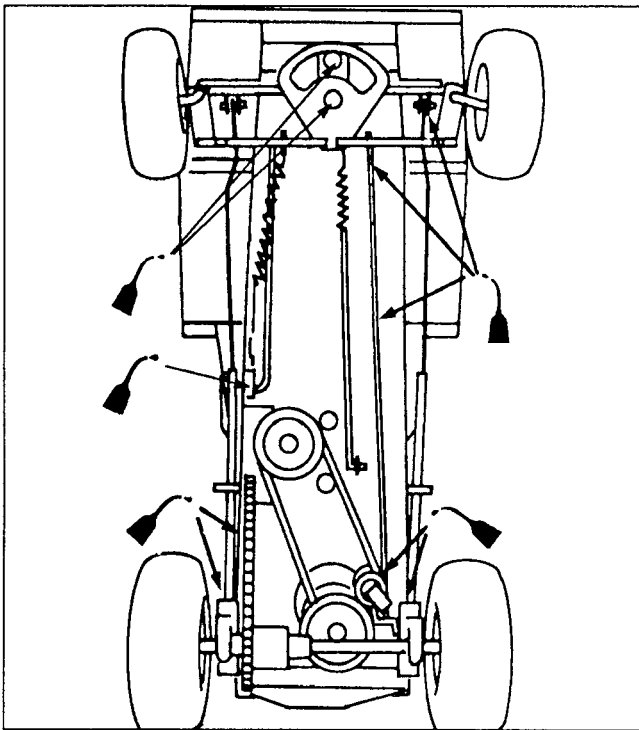
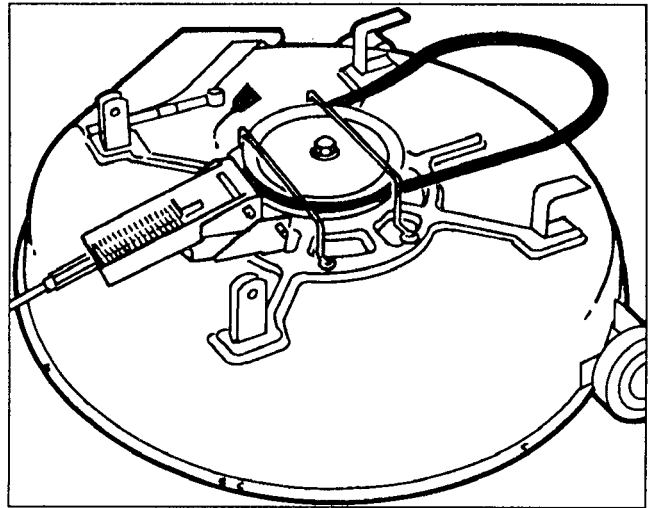

Figure 13
Figure 14
7. Lubricate pivot points in the steering, drive, brake, clutch, and deck engagement linkage with light oil (Fig. 13). Also lubricate mower housing (Fig. 14). Wipe up any excess oil.